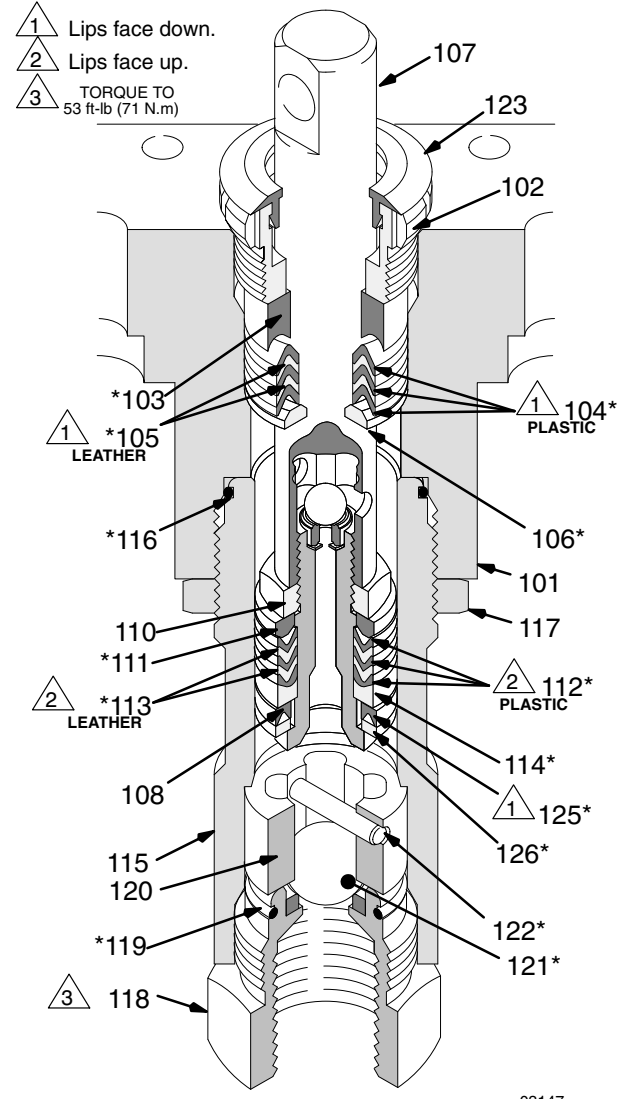

Fig. 23
9. Stack these parts one at a time into the top of the manifold (101): the male gland (106\*), alternately three plastic packings (104\*) with two leather packings (105\*), and then the female gland (103\*). See Fig. 23.
10. Install the packing nut (102) and plug (124), but leave loose for now. See Fig. 23.